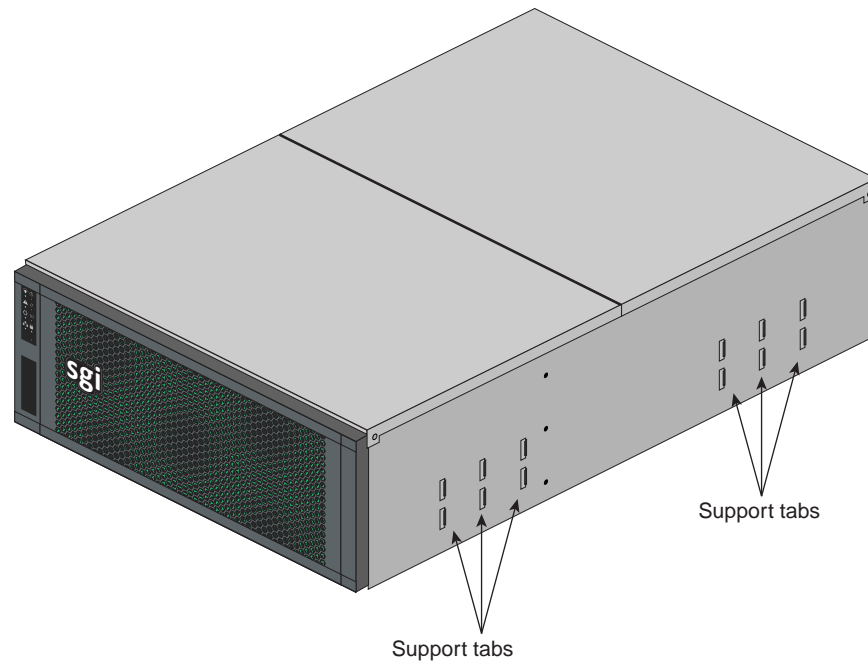

Figure 2-13 Support Tabs
2. Locate the six support tabs along the side of the chassis (see Figure 2-13 on page 31).